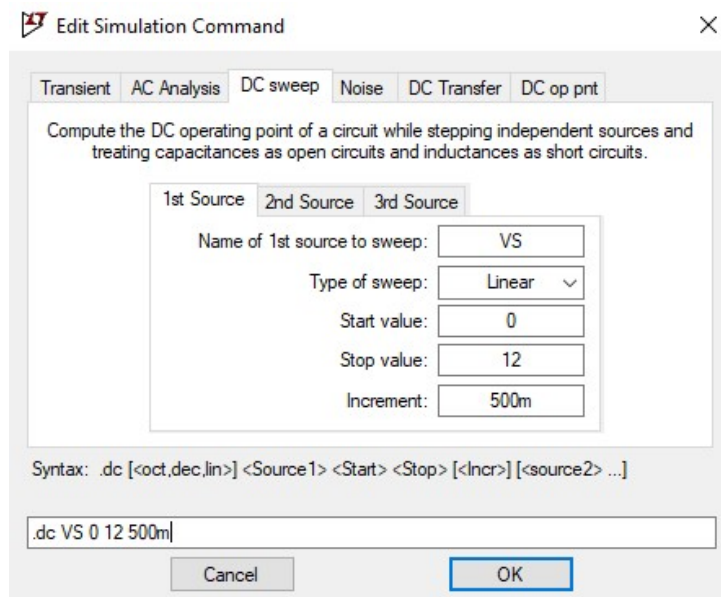

Figure 45: LTspice DC sweep simulation setup.
2. Fill in the text boxes to set up the following simulation that was also described earlier: Sweep the VS source, linearly, from 0 V to 12 V in 0.5 V increments. The *Edit Simulation Command* window should look like Figure 45.